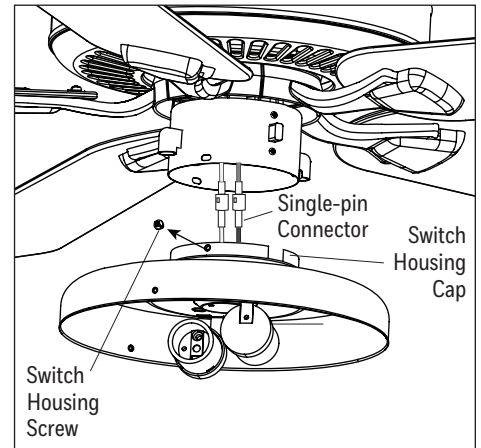

Figure 5.6
- Remove the three switch housing screws from the top edge of the light kit. Then, connect the single-pin connectors from the fan to the light kit -- blue to black and white to white. Ensure the connectors are secure (Figure 5.6).